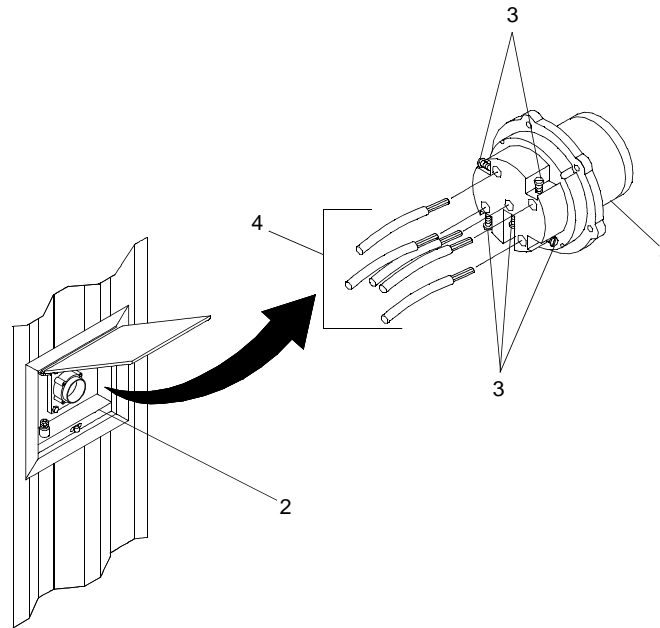

Figure 3. Female Electrical Connector Wiring
3. Pull shore tie female connector (figure 3, item 1) outward from shore tie recess pocket (figure 3, item 2)
4. Loosen five screws (figure 3, item 3) on back of shore tie female connector (figure 3, item 1).
5. Label and remove wires (figure 3, item 4) from shore tie female connector (figure 3, item 1).
6. Discard shore tie female connector (figure 3, item 1).
7. Install wires (figure 3, item 4) in new shore tie female connector (figure 3, item 1) and remove labels.
8. Tighten five screws (figure 3, item 3) on back of shore tie female connector (figure 3, item 1).